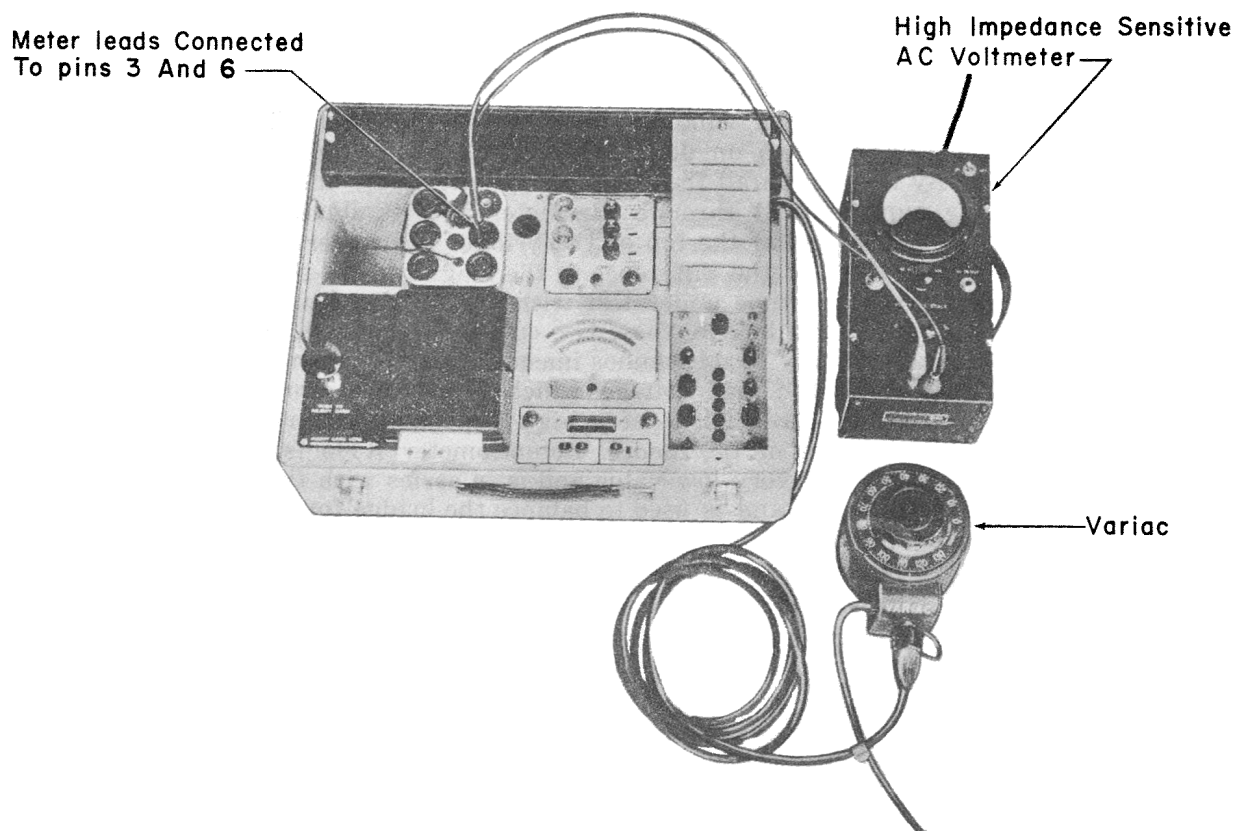

Figure 12. Signal Regulation and Amplitude Check
- a. Connect the tube tester to the power line thru a Variac set to 115 volts. See figure 12. Turn the instrument on.
Connect the instrument to the power line and turn it on. Connect an AC voltmeter capable of accurately measuring 5 volts RMS to pins 3 and 6 on any convenient tube socket. (The Ballantine Model 300 or equivalent used for signal adjustments can also be used for this measurement.) See Figure 12.